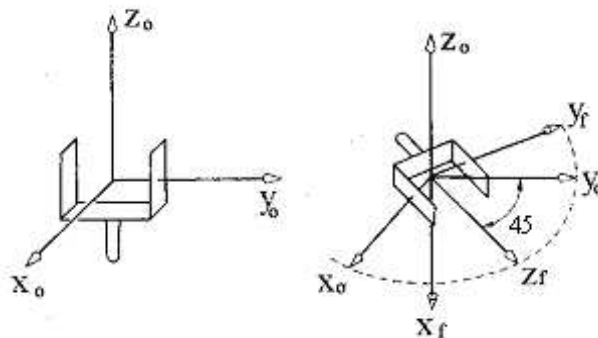

Figure 6
6. Using the double axis rotation method, specify an orientation trajectory to bring the end effector from rest at the initial orientation as shown in figure 6, to a complete stop at the final orientation in 2 seconds. Adopt the interpolation by a quintic polynomial function of time. [16]